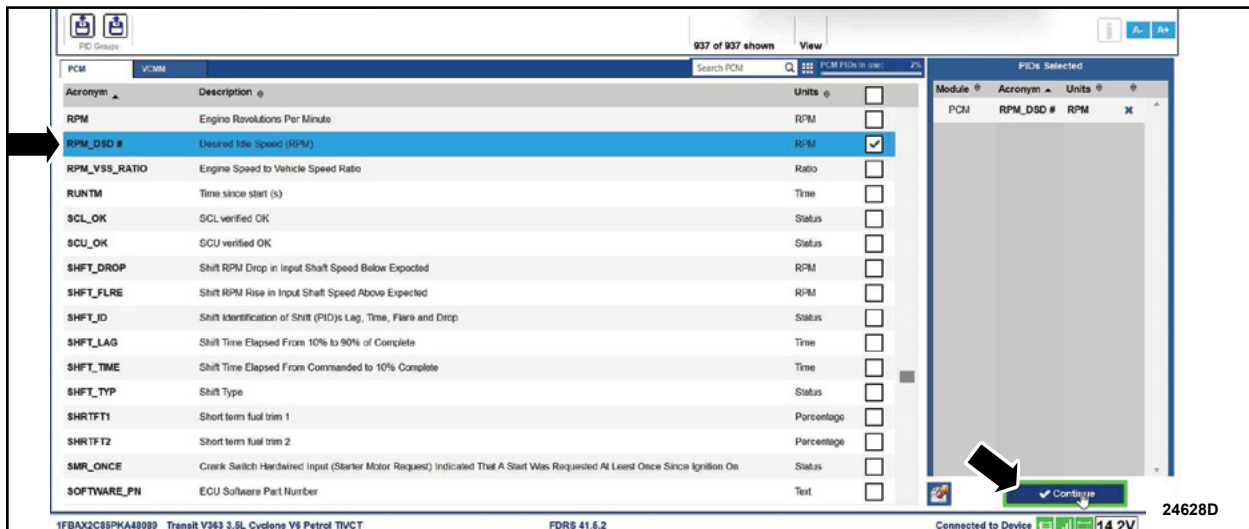

FIGURE 4
10. On the LH side of the screen locate and select the **RPM_DSD #** PID, and then click **Continue**. See Figure 4.